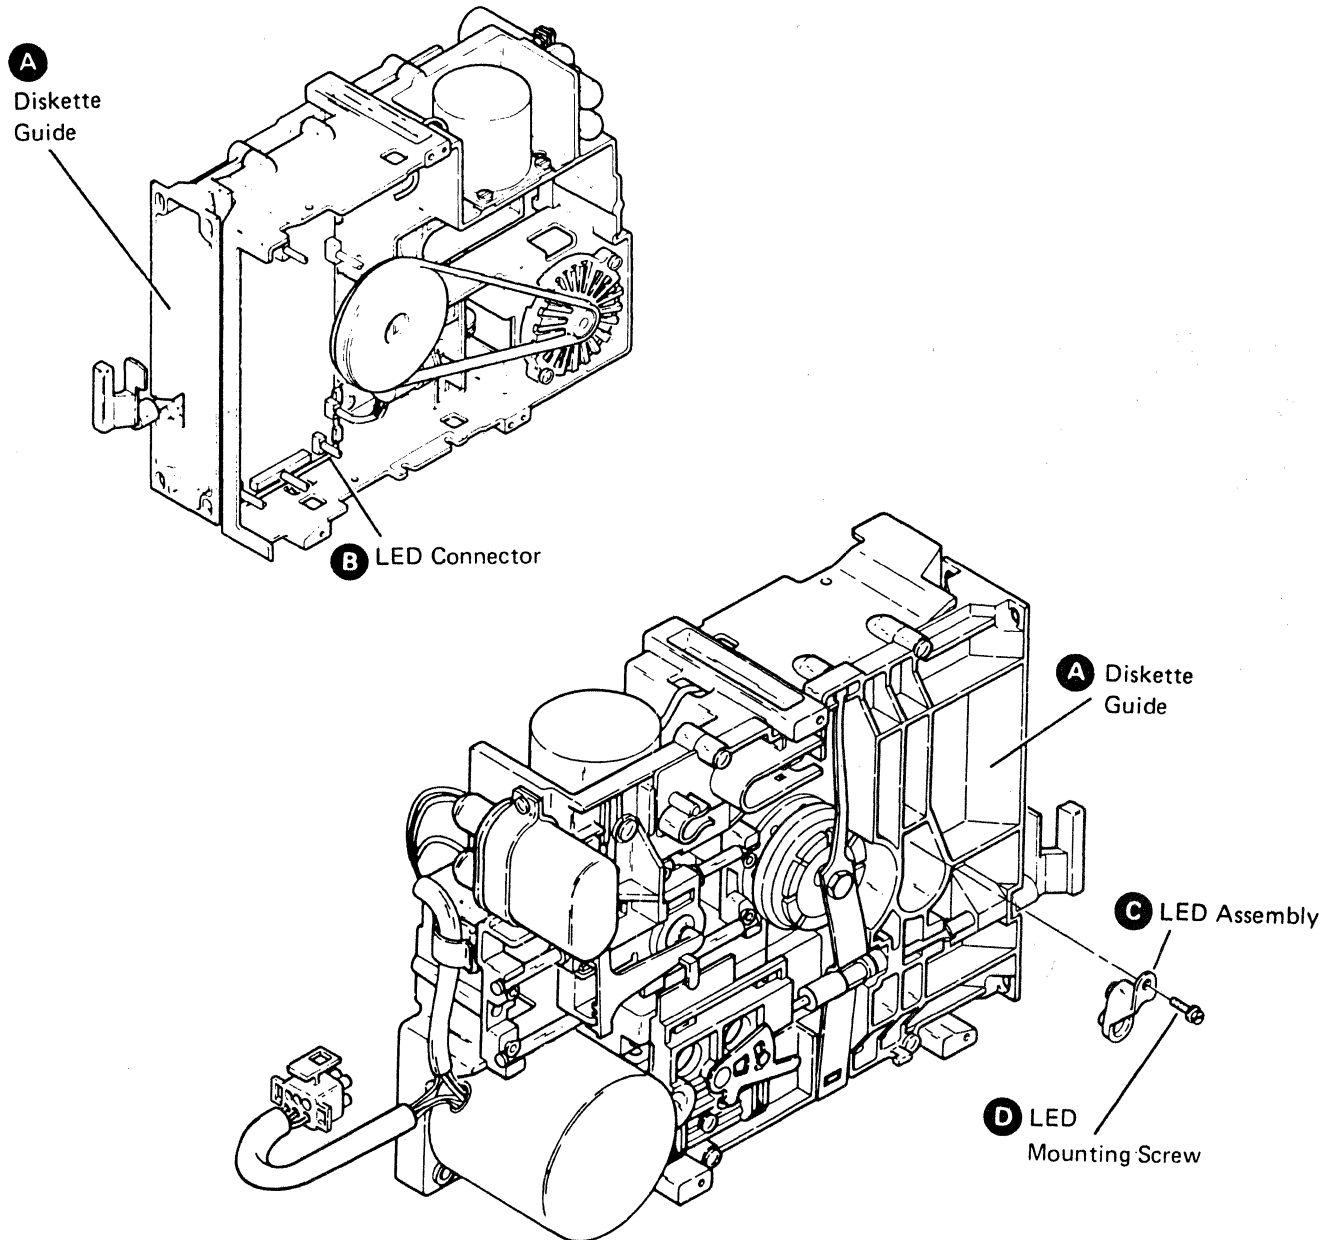

Figure E-37. LED Removal and Replacement
E.3.6.3 LED Removal (Figure E-37)
E.3.6.4 LED Replacement (Figure E-37)